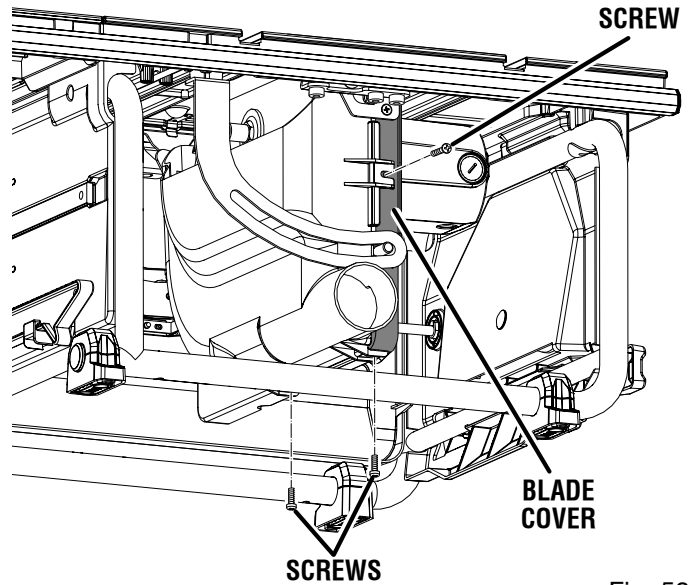

Fig. 50
- Remove the screws and open the blade cover. Clean sawdust and wood chips from the blade cover. Close and secure. (See figure 50.)